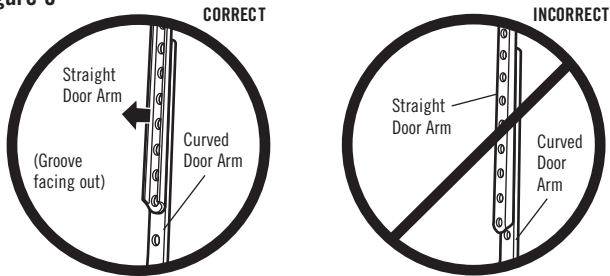

Figure 6 One-Piece Door Without Track
- Run the bell wire from both sensors to the garage door opener. Attach the wire to the wall and ceiling with the staples (Figure 6).